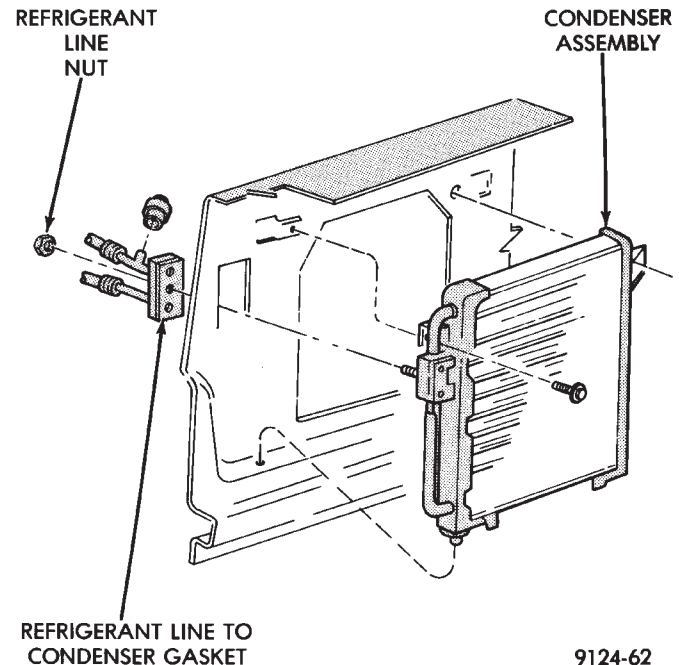

Fig. 17 A/C Condenser Removal and Installation—Typical
- (1) Remove grill assembly. Refer to Group 23, Body.
- (2) Remove refrigerant line attaching nut (Fig. 17) and separate refrigerant line assembly from condenser sealing plate.